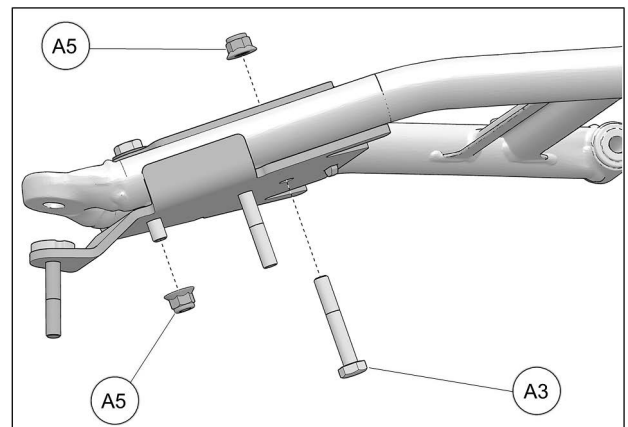

Fig. 23
12. Insert M10x65mm bolt (**A3**) through the bottom and secure the two parts together with nuts (**A5**) provided. Tighten nuts (**A5**) to 50 Nm [37 lb•ft] of torque. Refer to Fig. 23